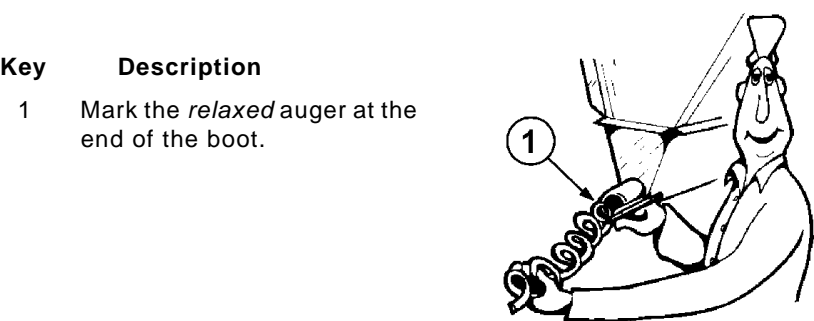

Figure 36. Measure the Auger from the relaxed position.
7. Pull the auger at the boot end until it begins stretching. Then let it relax. In the *relaxed* position, mark the auger at the end of the boot. See Figure 36.